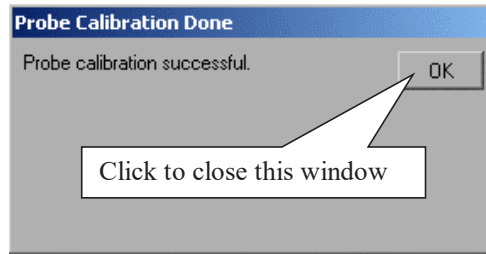

Figure 13 Probe Calibration Done Window.
- 7 Referring to Figure 13 below, perform the following steps: